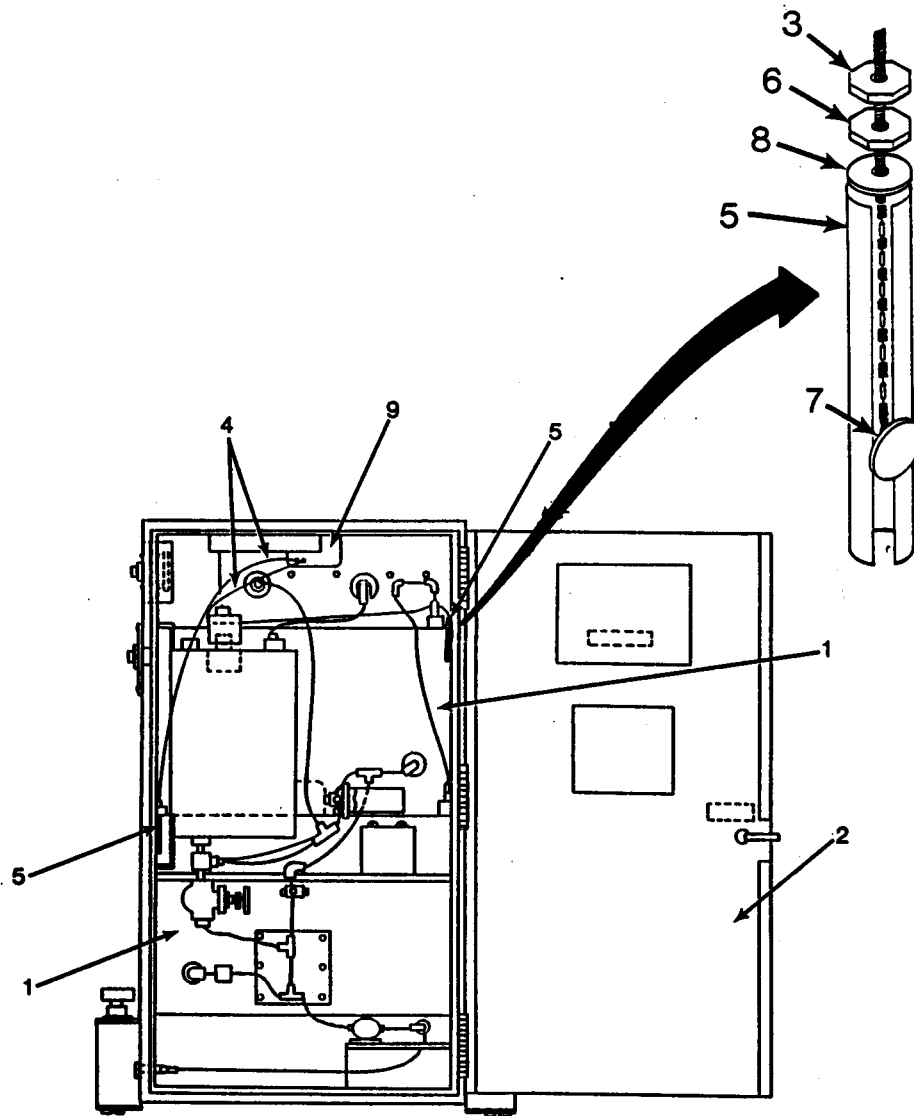

Figure 4-26. Replace Fresh Water and Grey Water Tank Level Probe
- (3) Tag and disconnect terminal wires (2) from water level monitor (3).
- (4) Remove nuts (4), lockwashers (5), flat washers (6), and screws (7) holding water level monitor in place.
- (5) Remove water level monitor (3).
- (6) Place new water level monitor (3) in place.
- (7) Install screws (7), flat washers (6), lockwashers (5), and nuts (4) holding water level monitor (3) in place.
- (8) Connect terminal wires (2) to water level monitor (3) and remove tags.
- (9) Close rear door (1).
- (10) Turn on power and test operation.
- j. Repair by replacing Fresh Water or Grey Water Tank Level Probe. (Figure 4-26.)
- (1) Drain water tank (1). Refer to paragraph 2-14.